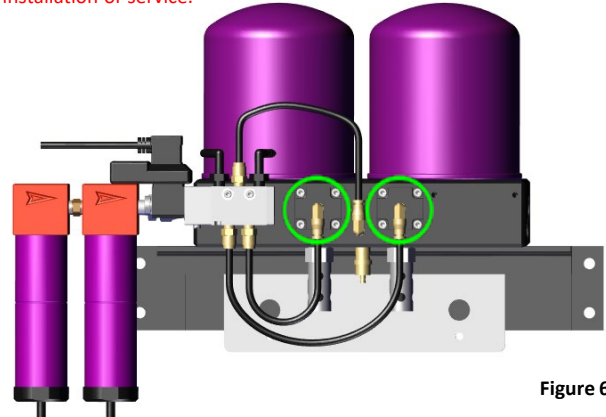

Figure 6
- Disconnect 1/4" tubing from quick-connect fitting located on piston cover. Push in on brass ring. While holding ring in, pull out tubing. *Figure 6*
- Reconnect tubing to quick-connect fitting located on piston cover. *Figure 6*